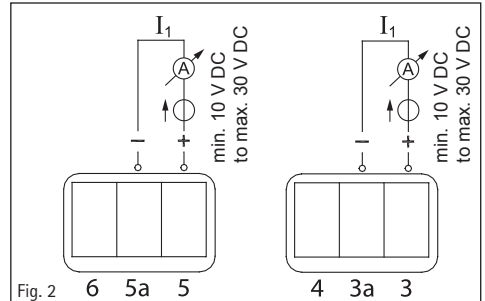
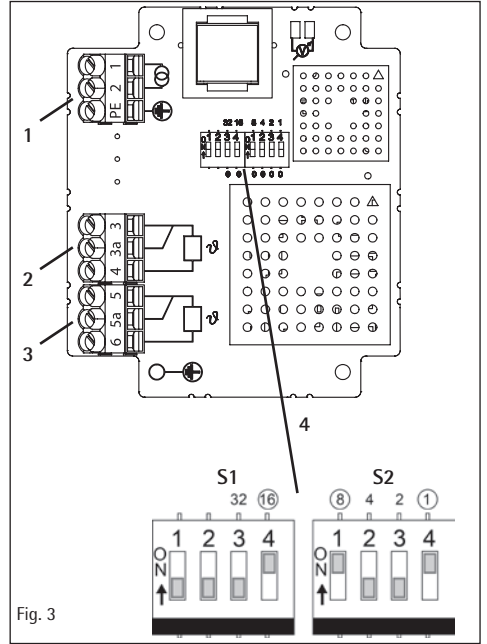

Fig. 2
Fig. 3
nected to terminals 3 and 4 and the equalizing line to terminal 3a (see figure 3, item 2).
When a 2-conductor indicator instrument is used (2 measuring lines), one measuring line is connected to terminal 3 and the other measuring line is connected to terminal 4 (see figure 3, item 2).
When a 4-conductor indicator instrument is used (2 measuring lines and 2 compensation lines), the same connections are used as for the 3-conductor technique. The second compensation line must be connected to terminal 4 (see figure 3, item 2).
When the configuration of the ZT-F2.1 with two Pt100 measuring resistors is used, an additional indicator instrument can be connected to terminals 6, 5a and 5 (see figure 3, item 3).
The ZT-F2.1 can be delivered with the 4...20mA analog output instead of the Pt100 measuring resistor. The 2-conductor connection technique ( $R/L$  max. 750  $\Omega$  at 24V DC) is used with connection to terminals 3a and 3 (see figure 2 and figure 3, item 2).
Optional configuration of the ZT-F2.1 with two analog outputs or one analog output and one measuring resistor is also possible. Connection is then made to terminals 5a and 5 (see figure 2 and figure 3, item 3).
the position of switches S1 and S2 for the desired gradients in the table in the appendix (chap. 12.2 – hot-spot gradient table for 2A CT nominal current) and set these accordingly (see figure 3). The hot-spot gradient can be set from 4 K to 50 K in increments of 1 K.
For example, the switch setting shown in figure 3, item 4 must be set for a hot-spot gradient of 25 K.
See chap. 13.2 (hot-spot gradient table for 2 A CT nominal current) for the switch positions to be set for the DIP switches (figure 3, item 4).